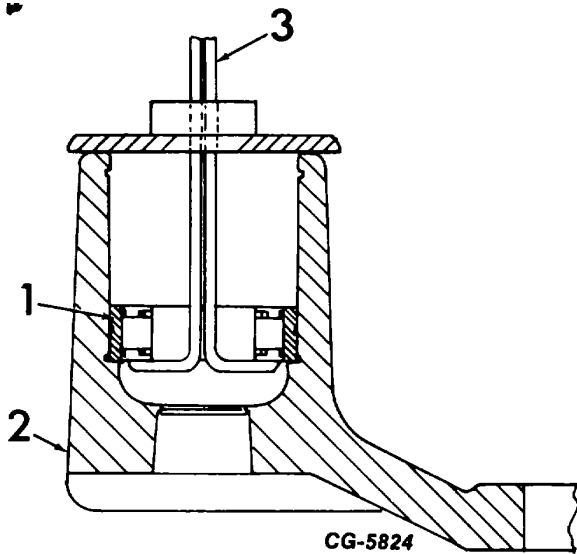

Figure 34. - Removing Roller Bearings
8. Remove the roller bearing (1, Fig. 34) from the bracket (2) with a suitable puller (3), as shown.